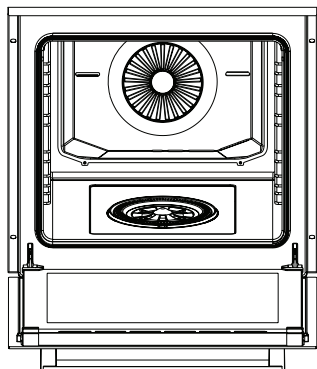
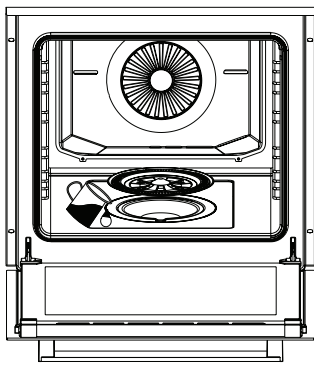
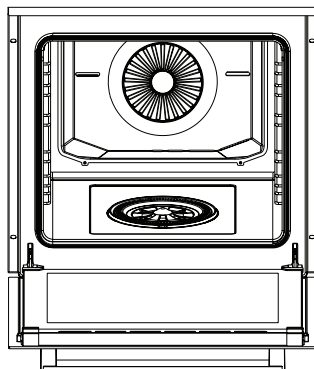

Figure 8
Figure 9
Figure 10
2. Open the cover of the appliance (See figure 8). Remove the water tank cover and fill the tank (See figure 9). Then, close the water tank cover (See figure 10). Close the cover of the appliance and preheat it for 10 minutes. After preheating, you can place the food in the appliance.